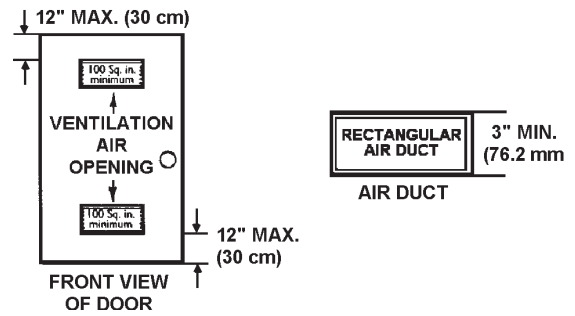
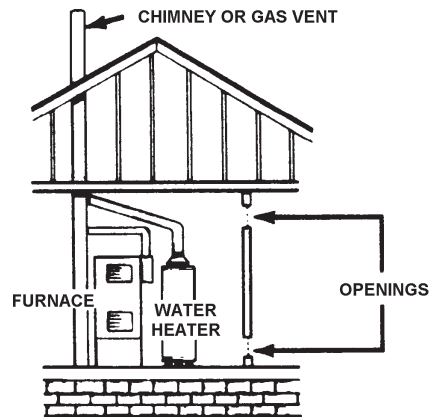

FIGURE 9.
FIGURE 10.
A gas water heater cannot operate properly without the correct amount of air for combustion, see Figure 9. Do not install in a confined area such as a closet, unless you provide air as shown in the *Combustion Air and Ventilation for Appliances Located in Confined Spaces* section. Never obstruct the flow of ventilation air. If you have any doubts or questions at all, call your gas supplier. Failure to provide the proper amount of combustion air can result in a fire or explosion and cause death, serious bodily injury, or property damage.
(See Figure 9 and Figure 10)
B. ALL AIR FROM OUTDOORS: (See Figures 9, 11, 12 and 13)